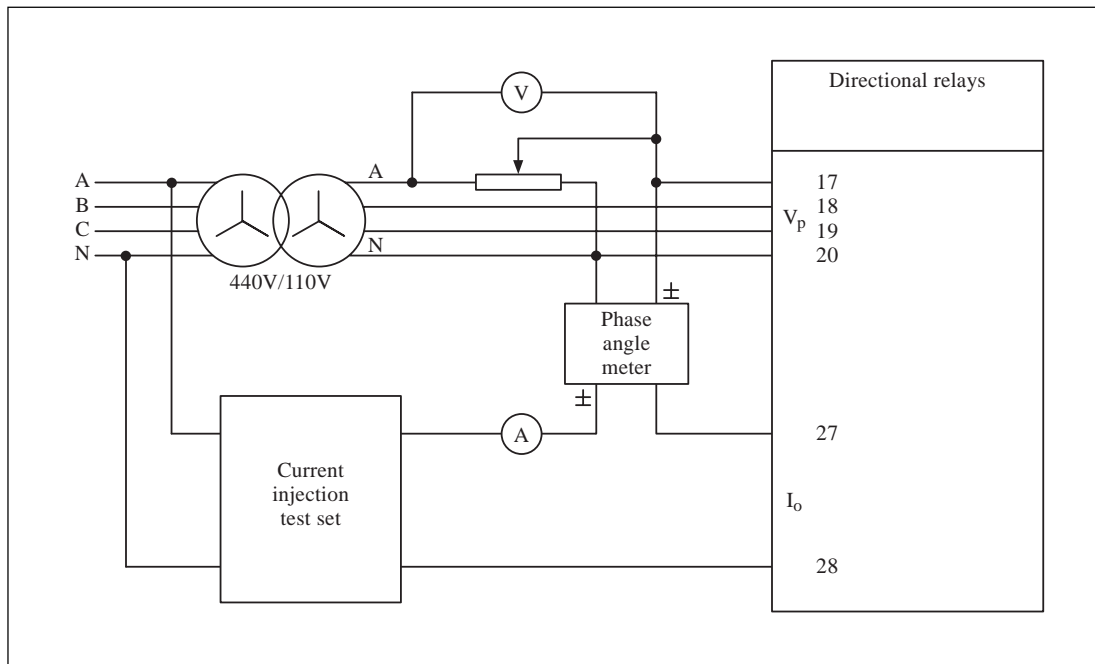
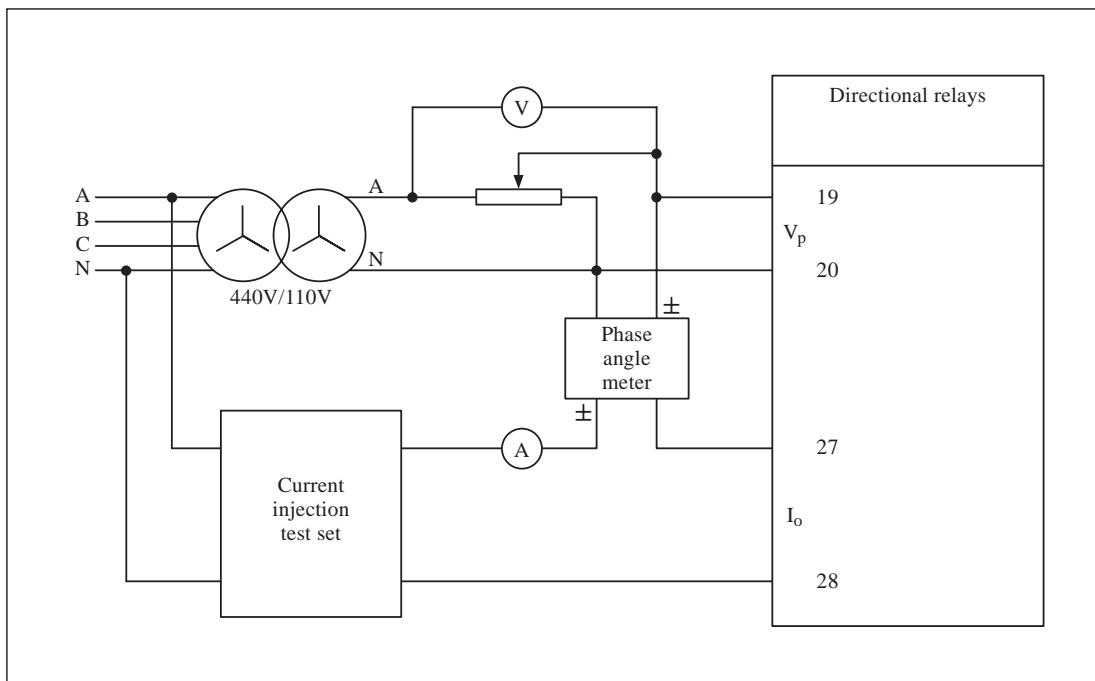

Figure 40. Connection diagram for KCEG140/240 and KCEU140/240
Figure 41. Connections for KCEG110/210, KCEG150/250, KCEG160, KCEU110, KCEU150/250, KCEU160
If the relay being commissioned has directional earth fault elements then the relay and the overcurrent test set and phase shifting transformer must be set up as shown in Figure 40. Taking positive phase angles as the current leading the voltage and negative phase angles as the current lagging the voltage, adjust the phase shifting transformer so the phase angle meter reads ($180^{\circ} +$ set earth fault characteristic angle). Once the phase angle has been set and the current input of the phase angle meter has been short circuited with a wire link, the overcurrent tests can be performed.
The residual voltage is internally derived from the summation of the three phase to neutral voltages and for these relays a three phase voltage should be applied to the relay. The residual voltage is then produced by collapsing one of the phase voltages with a potentiometer, as shown in Figure 40; the residual voltage being equal to the actual amount by which the phase voltage is reduced.
The earth fault elements of other relays in the range require the residual polarizing voltage to be derived from an external source and so the connections should be as shown in Figure 41.
To test the sensitivity of the polarising voltage the relay must be connected as shown in Figures 40 or 41 according to relay type.
When using the connections shown in Figure 40 the full three phase voltage should be applied and the voltage output from the potential divider adjusted to vary the residual voltage; the voltage measured across the top half of the potentiometer should agree with the value of V_o displayed on the relay under MEASUREMENTS (1). When using the connections shown in Figure 41 the single phase voltage being applied is the residual quantity and should agree with the value of V_o displayed on the relay under MEASUREMENTS (1).
When the relay is current polarized this test must be carried out to check the sensitivity $I_{p>}$. Connect the test circuit as shown in Figure 40. Set the currents to a value within the ratings of both the relay and the phase angle meter and adjust the phase shifter such that the two currents are in phase. Then leave the phase angle set and short out the terminals of the phase angle meter.
Check the test connections to the relay are as shown in Figure 40 . Ensure the polarities of all of the connections are correct, particularly where variable or step-down transformers are used, and that the phase shifting transformer is connected star/star. Apply polarizing current above the threshold $I_{op>}$ and operating current above the setting threshold $I_{o>}$ to the earth fault circuit under test.